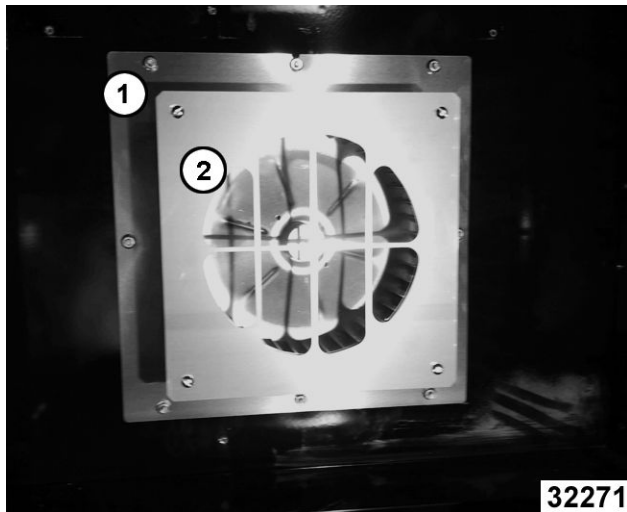

Fig. 33
7. Remove blower baffle screws (2, Fig. 33) if applicable.
8. Remove motor mounting plate nuts (1, Fig. 33).